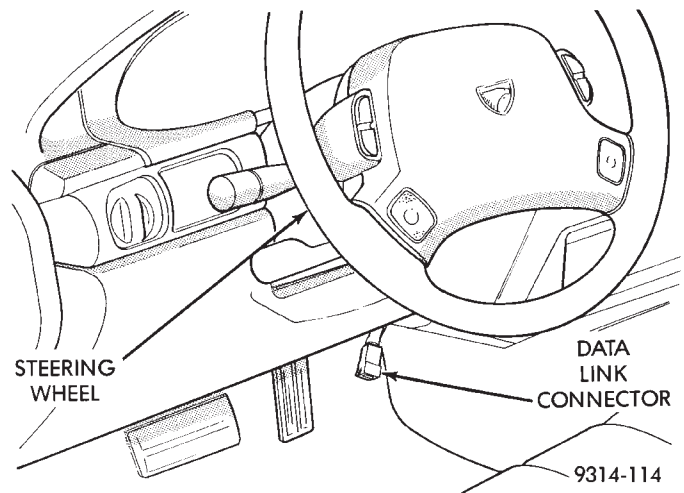

Fig. 1 Data Link (Diagnostic) Connector
The second method of reading diagnostic trouble codes uses the DRBII scan tool. The DRBII scan tool connects to the data link (diagnostic) connector in the vehicle (Fig. 1). For diagnostic trouble code information, refer to charts in this section.
(1) Connect DRBII scan tool to the data link (diagnostic) connector located in the passengers compartment, below the center of instrument panel on the drivers side (Fig. 1).
(2) If possible, start the engine and cycle the **A/C** switch if applicable. Shut off the engine.
(3) Turn the ignition switch on, access Read Fault Screen. Record all the diagnostic trouble codes shown on the DRBII scan tool. [Observe the malfunction indicator lamp (check engine lamp) on the instrument panel. The lamp should light for 2 seconds then go out (bulb check)].